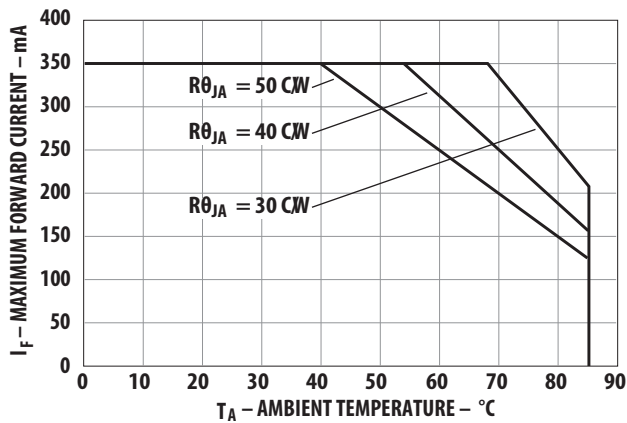

Figure 11. Maximum Forward Current vs. Ambient Temperature for InGaN Derated based on T_JMAX = 110°C, R_{θJA} = 30°C/W, 40°C/W and 50°C/W
1. DC forward current – derate linearly based on Figure 5 for AllnGaP & Figure 11 for InGaN.